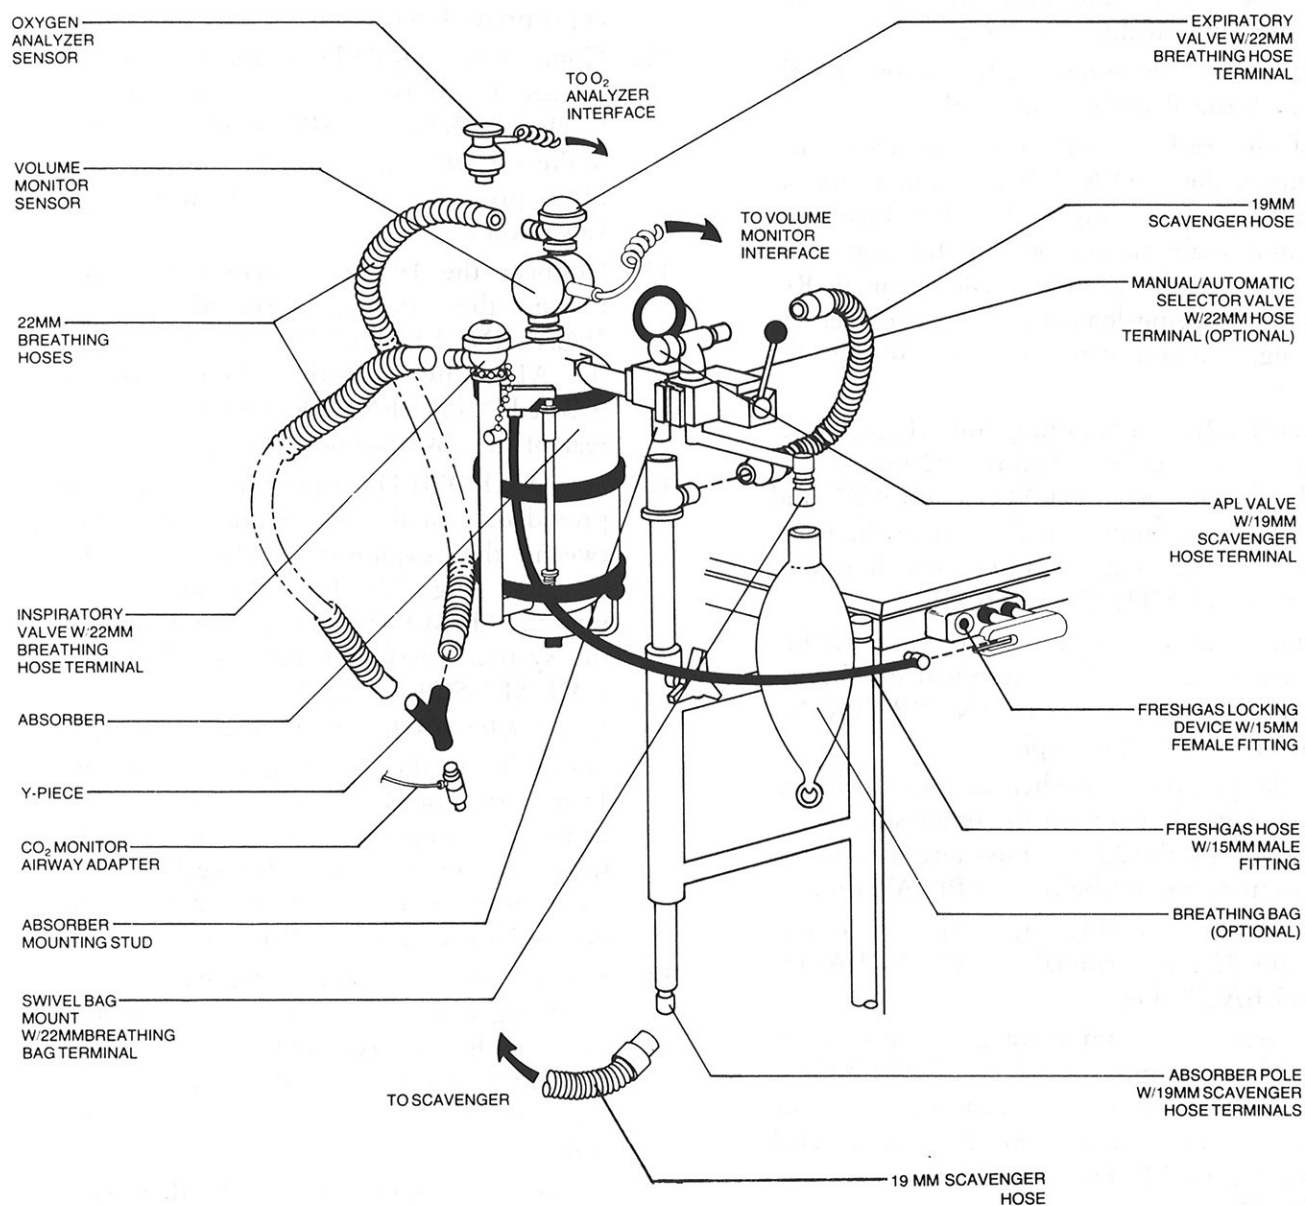
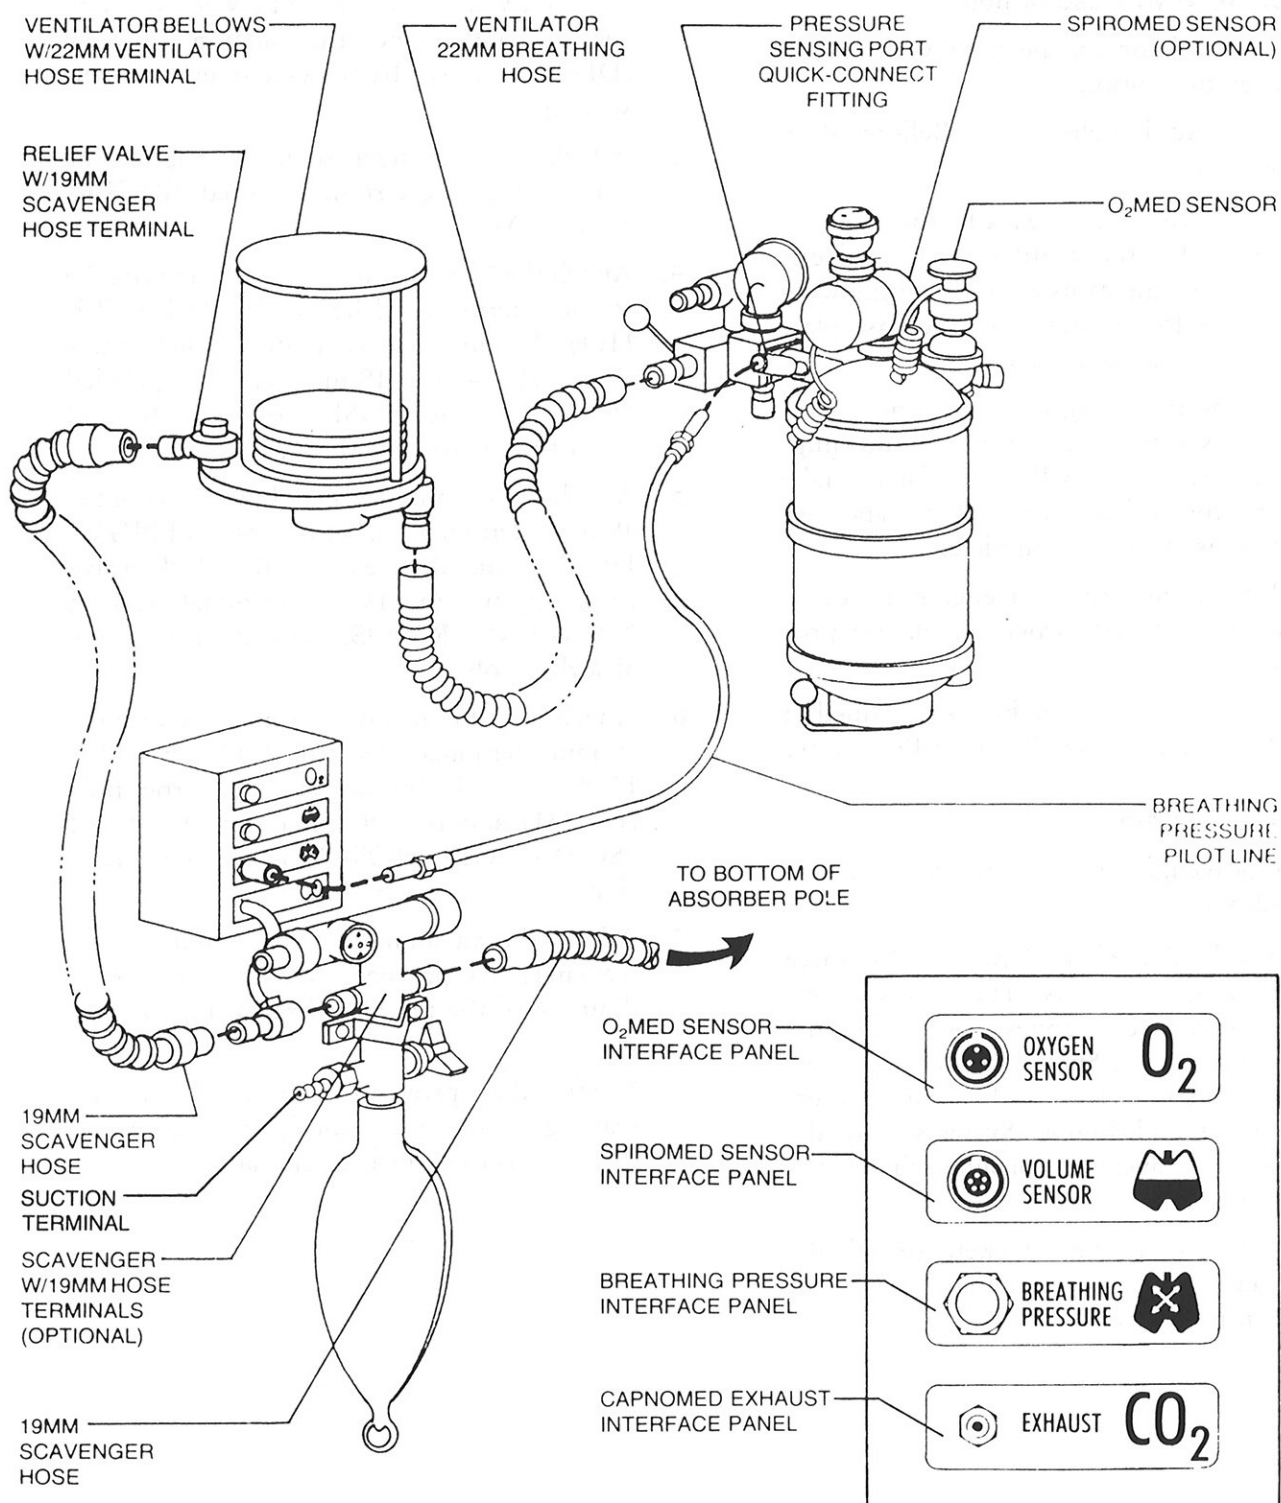

FIGURE 30: ABSORBER INSTALLATION (FRONT VIEW)
FIGURE 31: ABSORBER (REAR VIEW) AND SCAVENGER INSTALLATIONS
Install the absorber system (Figs. 30 & 31) as described below. This installation presumes the use of an appropriate scavenger system with the absorber system.
4. Attach a 22 mm breathing hose (Fig. 31) between the ventilator bellows 22 mm terminal labeled "VENTILATOR HOSE" and the 22 mm terminal on the rear of the manual/automatic selector valve, which is also labeled "VENTILATOR HOSE."
5. Attach a 22 mm breathing hose (Fig. 30) between the 22 mm hose terminal on the inspiratory valve labeled "INSPIRATION" and one side of the Y-piece.
6. Similarly, attach another 22 mm breathing hose (Fig. 30) between the other side of the Y-piece and the 22 mm hose terminal on the expiratory valve labeled "EXPIRATION."
7. Attach the breathing bag to the swivel bag mount 22 mm terminal labeled "BREATHING BAG" (Fig. 30).
8. Connect the 19 mm scavenger hose between the 19 mm terminal (labeled "SCAVENGER HOSE") on the bottom of the absorber pole (Fig. 30) and the 19 mm terminal (labeled "SCAVENGER HOSE") on the scavenger (Fig. 31).
9. Attach the breathing pressure pilot line to the connector on the system interface panel labeled "BREATHING PRESSURE" (Fig. 31). If the shorter pilot line is used, it reads the pressure at the absorber top dome gas pipe by means of a quick-connect fitting. If the longer pilot line is used, it reads the pressure at or near the patient Y-piece, at either a 15 mm adapter with the appropriate Luer fitting or a Y-piece with the appropriate Luer fitting.
10. Connect the O₂MED sensor cord to the connector on the system interface panel labeled "OXYGEN SENSOR" (Fig. 31). Make sure that the O₂MED sensor assembly is properly mounted in the inspiratory valve dome.
11. Connect the 19 mm scavenger hose between the 19 mm terminal (labeled "SCAVENGER HOSE") on the rear of the APL valve and the 19 mm terminal (labeled "SCAVENGER HOSE") on the rear of the absorber pole (Fig. 30).
12. If a SPIROMED respiratory monitor is provided, install the volume sensor between the expiratory valve and the absorber (Fig. 30). Plug the sensor cord into the SPIROMED sensor connector on the system interface panel labeled "VOLUME SENSOR" (Fig. 31).
13. If a CAPNOMED CO₂ monitor is provided, install the sampling adapter on the 15 mm side of the Y-piece. Connect one end of the sampling line to the adapter and the other end to the Semi-Permeable Tube, which in turn connects to the Water Trap on the Patient Interface Panel (Fig. 31).
1. Using the mounting bracket, install the scavenger on the side of the anesthesia unit as shown in Figure 31.
4. Attach the 19 mm scavenger hose between the 19 mm terminal (labeled "SCAVENGER HOSE") on the ventilator relief valve (Fig. 31) and the 19 mm terminal (labeled "SCAVENGER HOSE") on the left-hand side of the scavenger (Fig. 31).
5. Attach the 19 mm scavenger hose between the 19 mm terminal (labeled "SCAVENGER HOSE") on the rear of the APL valve (Fig. 30) and the 19 mm terminal (labeled "SCAVENGER HOSE") on the rear of the absorber pole.
6. Attach the 19 mm scavenger hose between the 19 mm terminal (labeled "SCAVENGER HOSE") on the bottom of the absorber pole (Fig. 31) and the 19 mm terminal (labeled "SCAVENGER HOSE") on the right-hand side of the scavenger (Fig. 31).
- *23. Check the hose connections in the breathing system (refer to Figures 30 & 31 in the SETUP & INSTALLATION section of this manual):